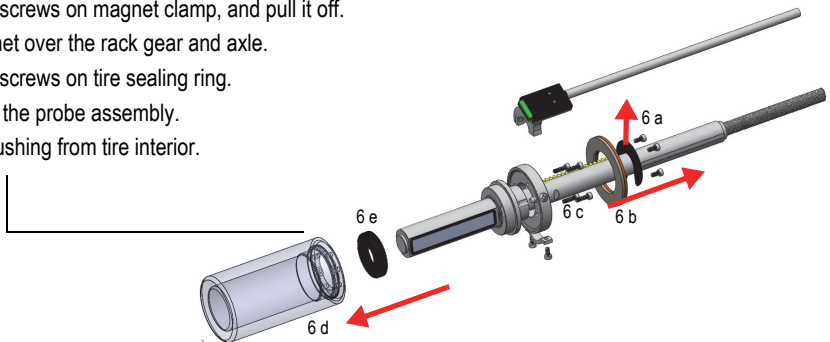

Figure 4-1 Removal steps
- Removal steps are shown in Figure 4-1 on page 30.